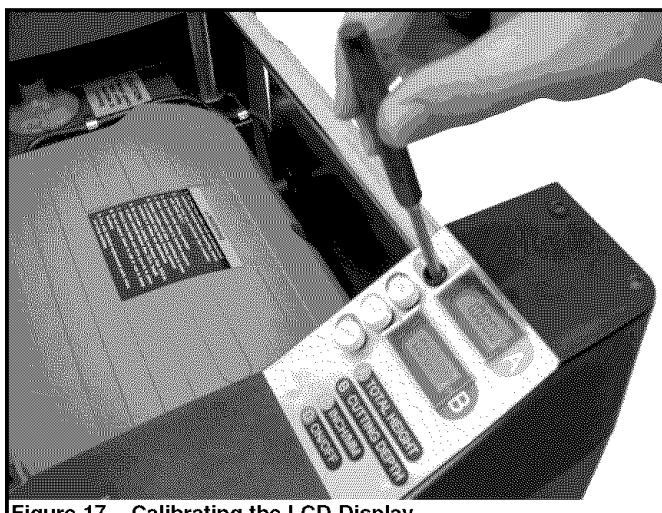

Figure 17 – Calibrating the LCD Display
- Remove button 'A', and using a punch or other suitable object, insert into the button hole and press. The display A will read 1.0000" or 25.4 mm. (see Figure 17).